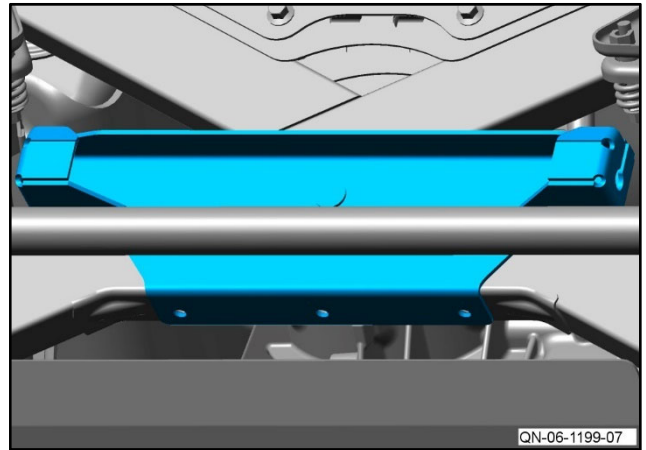

Figure 10
- 11** Put the new park brake bracket into position (refer to Figure 10).